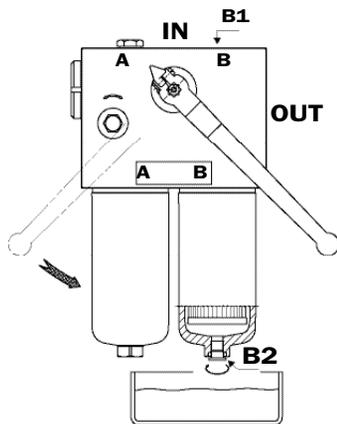

Fig. 2
- 2** Turn handle to divert the oil flow from housing B to housing A (see fig. 2). Unscrew the air vent plug (pos. B1) and open the oil drain connection (pos. B2) collecting the fluid in a suitable container.